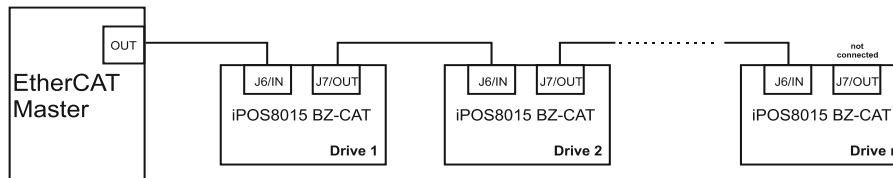

Figure 28. EtherCAT network linear topology
- See Figure 28. EtherCAT network linear topology for a visual representation of the linear topology.